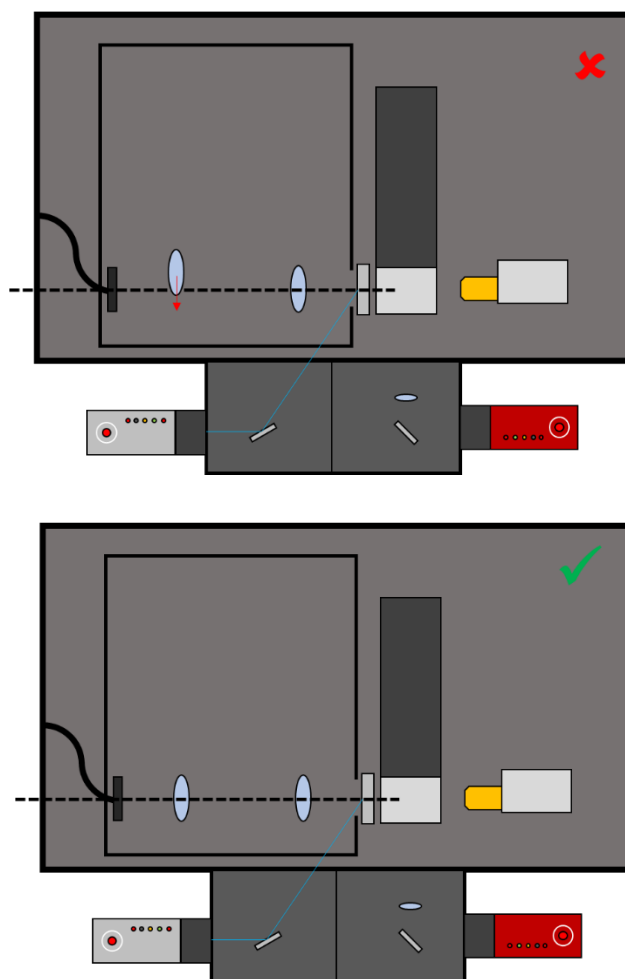

Figure 36: Illustration of the collinear emission collection optics, showing incorrect (top) and correct (bottom) arrangements.
9. Do a visual check of the positions of the lens assemblies and xy translator holding the LLG. If they look to be collinear, then no loosening should be required. If not, loosen the hex nut (5mm allen key) on the magnetic base(s) of the optical assembly/assemblies out of line and move until they line up with the sample holder cradle. This is illustrated in Figure 36 below: